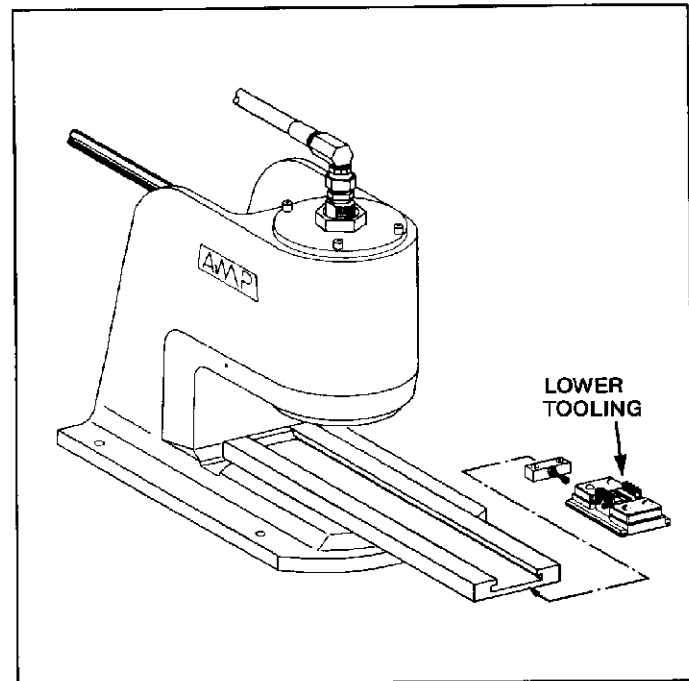

Fig. I-3
1. Take off front tool stop at end of channel on pneumatic unit by removing the screw on the bottom of the channel. See Figure I-3.
2. Position the lower tooling in the channel of the pneumatic unit, so that the stop of the tooling assembly enters the channel first. See Figure I-3.